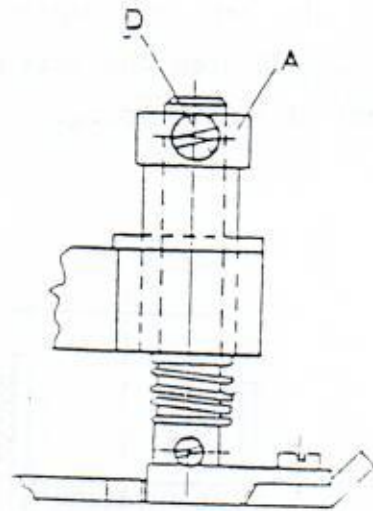

Fig. 29
1. Adjust pressure foot depends on the sewing fabric. Loosen the screw B of collar A and move it up or down in Fig 29. To increase the tension, move collar A down; and decrease the tension, move collar A up. Tighten the screw B when finish the adjustment of auxiliary pressure foot.